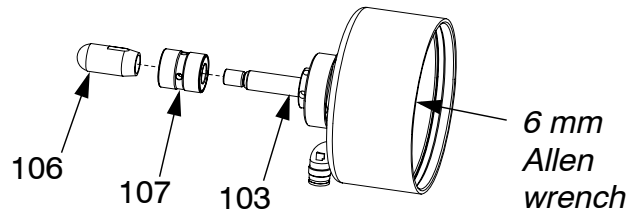

FIG. 9
6. Apply grease on the piston rod and install the u-cup cartridge (107) against the air housing (102), with the open end of the u-cups facing away from the air section. See FIG. 9.
7. Wipe grease off the piston rod threads. Apply purple anaerobic adhesive (supplied with repair kit) on the male and female threads, then install ball housing (106). Torque to 40 ft-lbs (54 N•m). See FIG. 9.